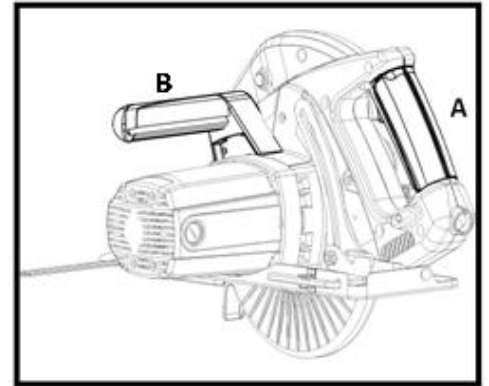

Fig. 16
Use right hand to hold the rear handle (A) and left hand (B) to hold the forward handle. Once the blade reaches full speed, steadily push the saw into the material to be cut. Keep moving smoothly until the cut is finished. Fig.16